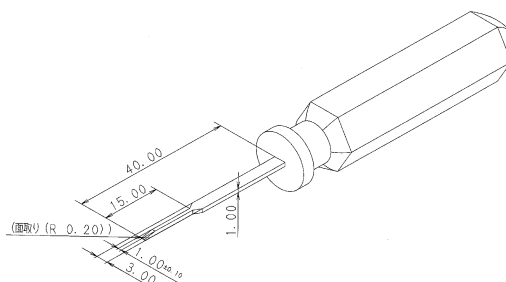

Figure-8. Terminal removal tool
- 1) Insert the tool (see Figure-8 on Page 14) between a housing lance key and the terminal as shown below. Move the lance down with the tool to unlock the lance.